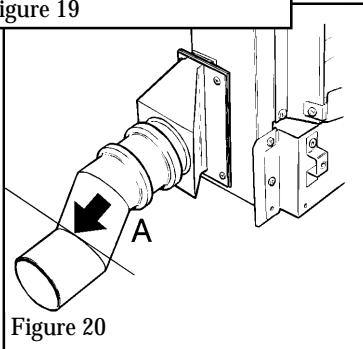

Figure 20
8.3 Measure the length of the duct run between the intersection of the horizontal and sloping sections of the “Z” coupling (“A” in fig. 20), fan box spigot and, if applicable, elbows. The ducts must run from within 10mm of the intersection “A” and enter the fan box spigot or elbow by a minimum of 40mm and a maximum of 70mm.